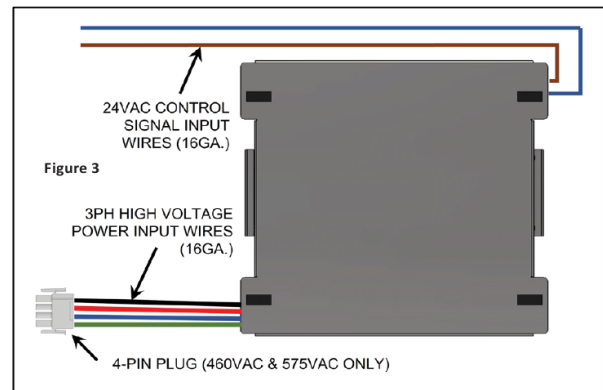

FIGURE 5
1. Remove the Power Exhaust cabinet door and locate the high voltage power wires and low voltage control signal wires. See Figure 5.